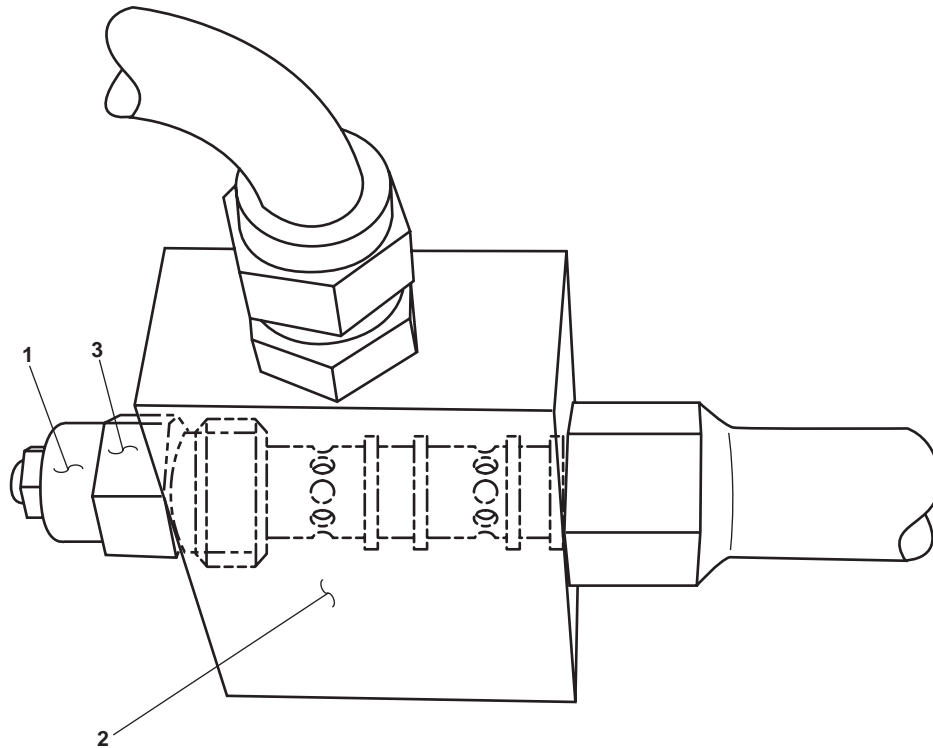

Figure 1. Shuttle Valve
1. Remove the shuttle valve cartridge (figure 1, item 1) from the shuttle valve (figure 1, item 2) by slowly turning the shuttle valve cartridge retaining nut (figure 1, item 3) to release system hydraulic pressure.
2. Do not remove the shuttle valve cartridge (figure 1, item 1) from the shuttle valve (figure 1, item 2) until all the hydraulic pressure has been relieved and the hydraulic oil has been drained into a suitable drain pan.
3. Remove the shuttle valve cartridge (figure 1, item 1).
1. Install the new shuttle valve cartridge (figure 1, item 1) into the shuttle valve (figure 1, item 2).
2. Tighten the shuttle valve cartridge (figure 1, item 1) by turning the shuttle valve cartridge retaining nut (figure 1, item 3).